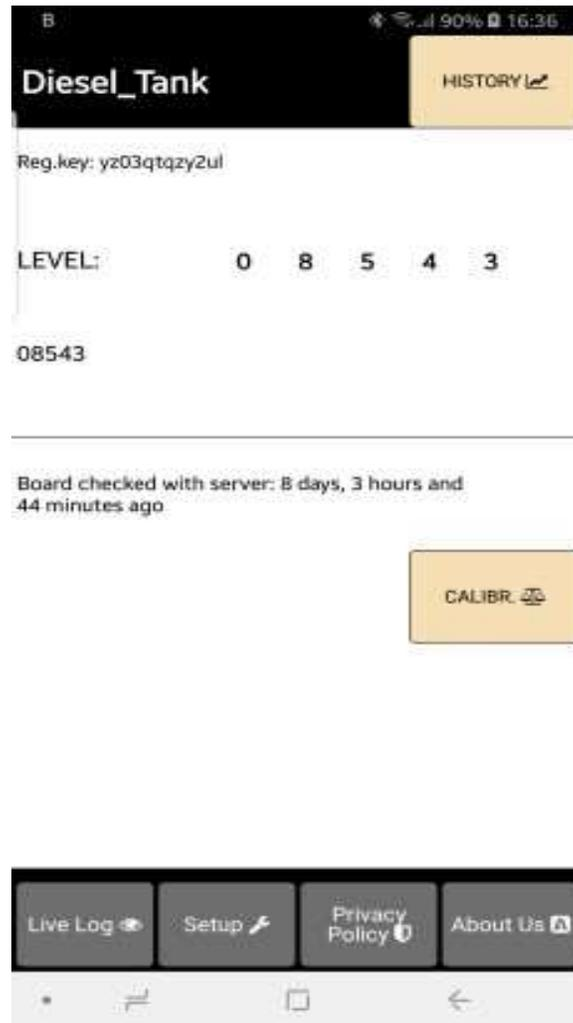

Fig 8.
10. Now pressing on the Diesel_Tank line will display the live log screen related to the DoboL board that has been setup (Fig.8). The level is displayed on the screen together with the last time the DoboL board checked with the server. This information is important for the user to know if the DoboL and its internet connection are working. If for instance the screen displays an unusually long time, it could be an indication that the DoboL or its internet connection or router are facing issues.
Next, Reconnect the pressure sensor to the tank and wait for the new data to be sent back to the app. Then press on the “CALIBR.” Button (Fig.8) so that the calibration page launches back on the default browser. Here, enter the **CURRENT** volume of the tank in liters. Let’s say the current level of liquid is at 1.5m above the sensor position, so the current volume in liters is: $1\text{m} \times 1\text{m} \times 1.5\text{m} = 1500$ liters. So enter 1500 in the “Maximum/current volume level” and press the “Save” button. It should be noted that